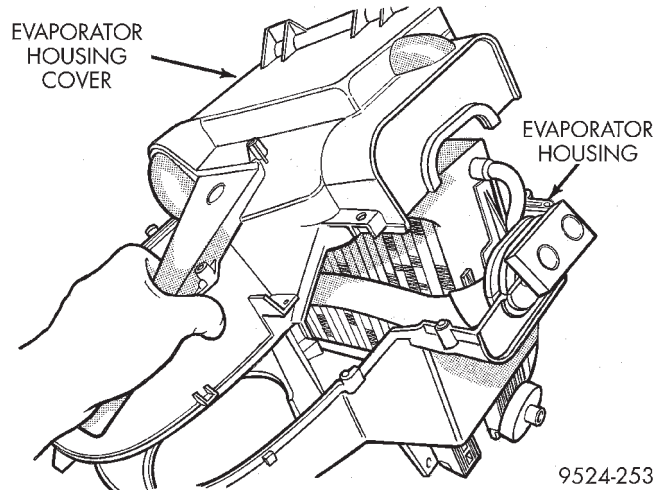

**Fig. 90 Evaporator Housing Upper Cover**
- (20) Remove evaporator housing upper cover (Fig. 90).